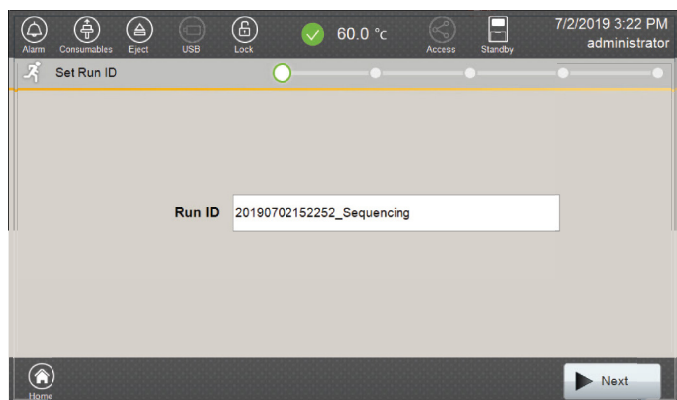

Figure 79. 'Set Run ID' screen.
2. A default Run ID appears. If preferred, enter a new Run ID on the 'Set Run ID' screen (Figure 79). Select the 'Run ID' window. This opens the 'Set Run ID' screen, and a keypad will become active on the touch screen. Alternatively, the Run ID can be entered using a traditional keyboard if one is connected to the Spectrum Compact CE System. The following table lists rules for characters that can be used for a Run ID.